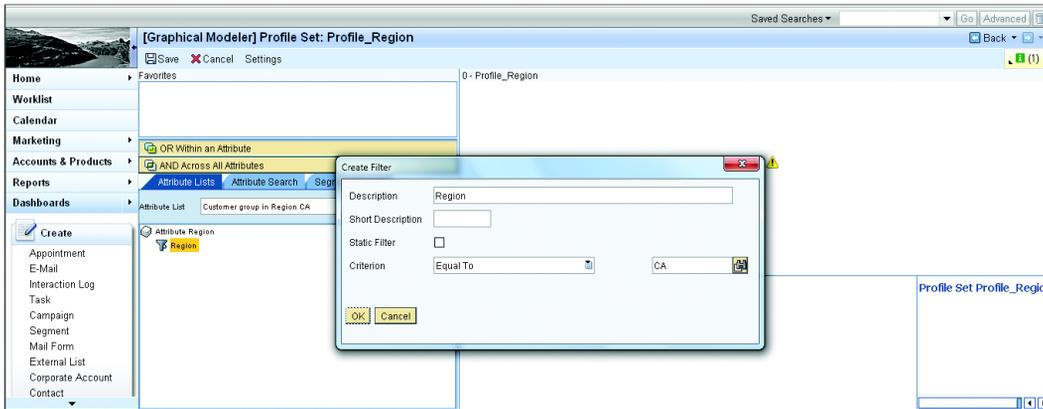

Figure 5.51 Creating a Filter for Region CA
9. Right-click on the ATTRIBUTE REGION and add the filter REGION CA, as shown in Figure 5.51.